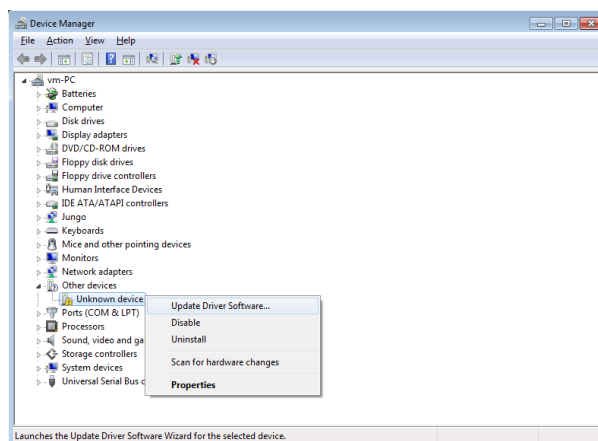

Figure 4.4.
2. In the device manager, find the unknown device. Right click on it to open the menu and choose **'Update Driver Software...'** as Figure 4.4 shows.